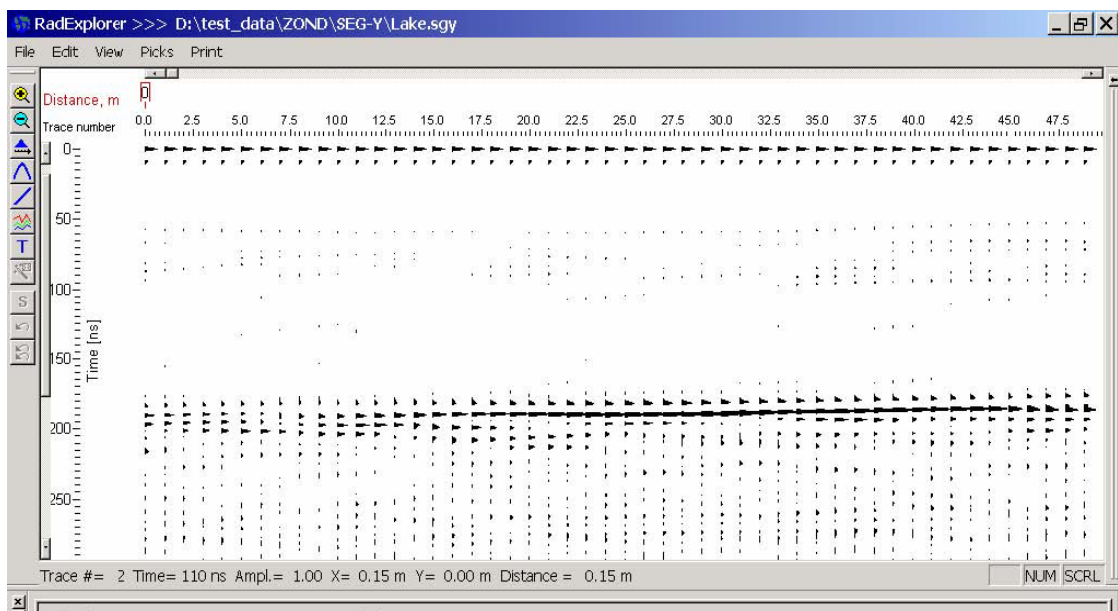

Fig. 5.4.4 – variable amplitude
- “VA” – variable amplitude (see Fig. 5.4.4);